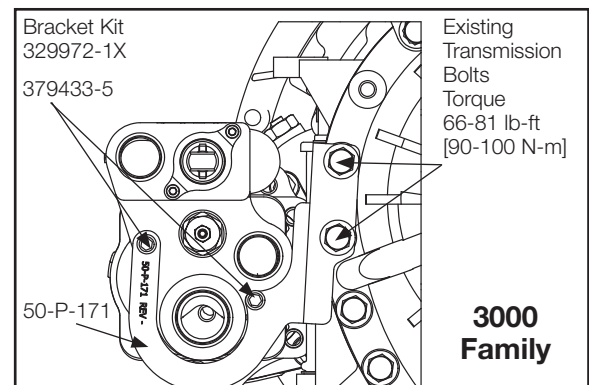

Figure 11
2. Install bracket to transmission using the existing transmission bolts in approved locations (**Fig. 11**). Slightly tighten, but do not fully torque to allow alignment of all mounting holes.